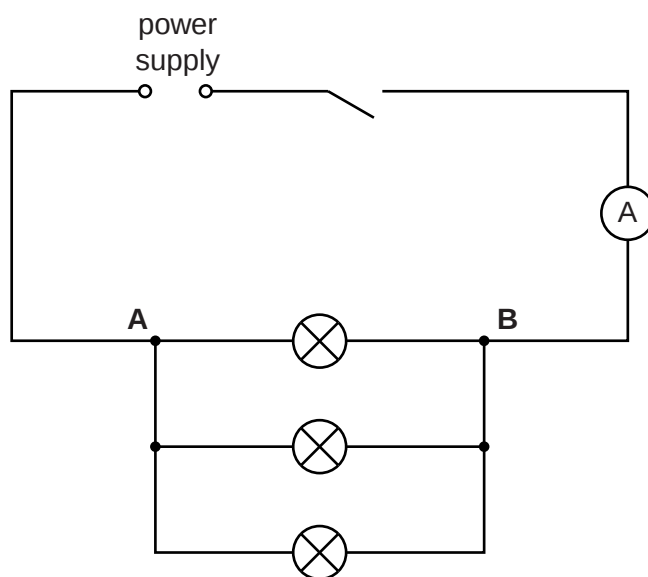

Fig. 3.1
- (iv) Sufficient connecting leads to set up the circuit shown in Fig. 3.1 with 2 additional leads (see note 1).
1. The circuit is to be set up for candidates as shown in Fig. 3.1.
Reconnect the circuit as shown in Fig. 3.1.